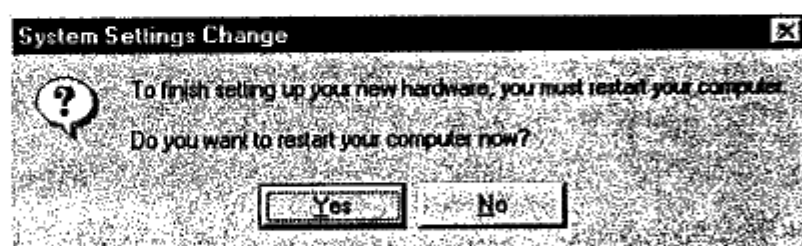

Figure 3-16
10. Click "Complete" to bring out a dialog box titled "System Settings Change". Remove the "SL-2000CD Driver & Utility" diskette from floppy disk drive A. Click "Yes" to restart your computer as shown in Figure 3-16.